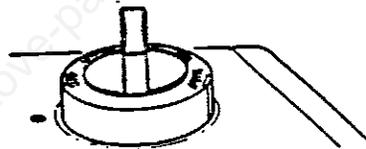
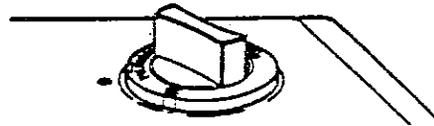

Figure 11
Figure 12
**NOTE:** The first time that the heater is operated after connecting the gas supply, the control knob should be depressed for about thirty (30) seconds. This will allow air to bleed from the gas system.
6. Release control knob pressure and turn clockwise to OFF. (Figure 11)
7. Depress control knob while OFF, then turn back to PILOT/IGN. This should cause the spark from the piezo ignitor to light the pilot gas. Keep control knob depressed for ten (10) seconds before releasing. (Figure 12) If Pilot does not light, repeat Steps 5, 6 and 7.
Figure 11 shows a correct pilot flame pattern. Figure 12 shows an incorrect pilot flame pattern. The incorrect pilot flame is not touching the thermocouple. This will cause the thermocouple to cool. When the thermocouple cools, the heater will shut down.
If pilot flame pattern is incorrect, as shown in figure 12